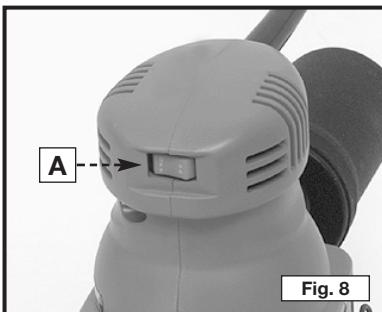

Fig. 8
3. The switch button (A) Fig. 8, is labeled "ON" and "OFF". Depress the "ON" end of the switch button to start motor. Depress the "OFF" end of the switch button to stop motor.